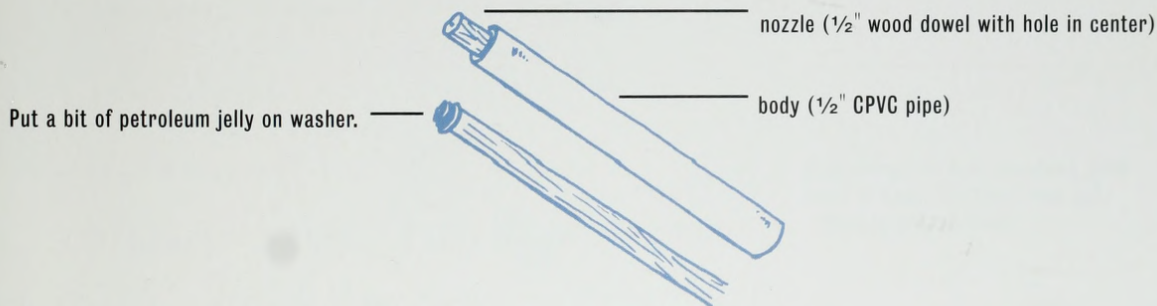

Fig. 3
4. Using Figs. 3 and 4 as a guide, stick the plunger in the pipe. It should fit somewhat snugly but still be easy to move. If it sticks in the pipe, gently sand the washer using fine sandpaper until you can stick the plunger into the pipe without pushing very hard.